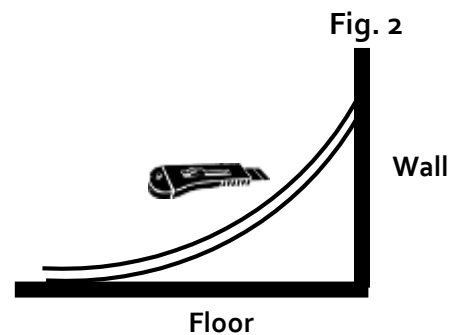

Fig. 2
**(Figure 2)** If preferred, tiles can be trimmed by coving the tile up the wall, and trimming free hand. Use professional wall trimmers, rigid hooks or straight blades.